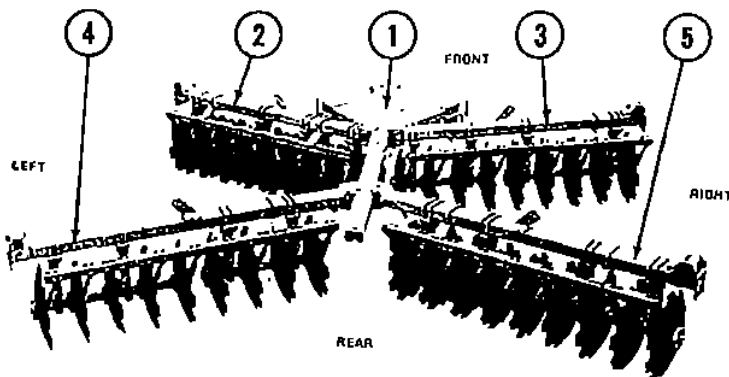

FIG. 12
2. Position the *Center Frame Bundle* (Item 1, Fig. 12) Bundle No. 201069 in the center of the work area. Block the center frame bundle up approximately 3 feet off the ground level.
3. Position the *Left and Right Front Gang Bundles* (Bundle Nos. 201580, 201581) (Items 2 and 3) as shown in Fig. 12. Block up the bundles so they will be in an upright position. Remove the gang bolt ($\frac{7}{8}$ " x $6\frac{1}{2}$ ") and bushings. Position the spacer bushing into the center frame bracket and attach the ends of each front gang bundle onto the bracket provided on the center frame bundle (Item 1).
4. Set the *Right and Left Rear Gang Bundles* (Bundle No. 201582, 201583, Items 4 and 5, Fig. 12) in position as described in Step 3 and secure to the center frame (Item 1) as shown in Fig. 77.